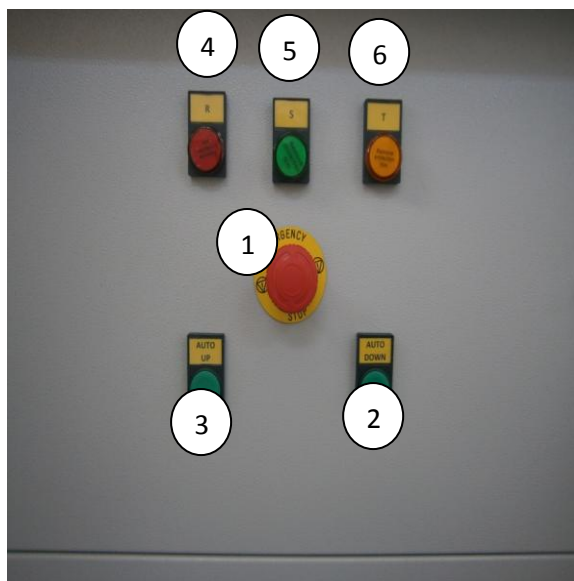

Figure: 7. Cabinet Control Panel
9. Make sure the **emergency stop buttons** on the Cabinet Control Panel, Override Desktop Panel and Guard House Desktop Panel (Figure 7 No: 1; Figure 8 No: 7) are **not pressed**.
13. Make sure that all mono phase check light (Phase R) on the Cabinet Control Panel (Figure 7, No: 4) is ON.
- Raising of the Road blocker is done automatically. In order to raise it automatically, push "Auto Up" button (Figure 7 No: 3, Figure 8 No: 9) ONCE.
- Lowering of the Road blocker is done automatically. In order to lower it automatically, push "Auto Down" button (Figure 7 No: 2, Figure 8 No: 10) ONCE.
- Make sure the **emergency stop buttons** on the Cabinet Control Panel, Override Desktop Panel and Guard House Desktop Panel (Figure 7 No: 1; Figure 8 No: 7) are **not pressed**.
- Make sure that mono phase check light (Phase R) on the Cabinet Control Panel (Figure 7, No: 4) is ON.
- If there are unexpected behaviors in system, quickly stop the system by pressing one of the **emergency stop buttons** on the Cabinet Control Panel, Override Desktop Panel and Guard House Desktop Panel (Figure 7 No: 1; Figure 8 No: 7).